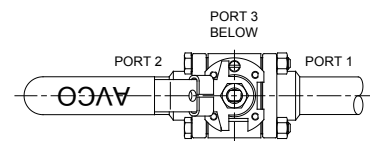

Fig. 5
5.3.1 For valve sizes up to 2" inclusive the lever has an integral stop to give full port 1 flow (port 2 has no flow), no flow at ports 1, 2 or 3, or full port 2 flow (port 1 has no flow), port 3 is always flowing when either port 1 or port 2 has flow. There is also a sliding lockable tab to prevent accidental or unauthorized operation of the valve. To operate, the lockable tab should be slid upwards and the lever rotated in the required direction. The tab can then be released to slide down and locate in its slot. The lever can only be correctly installed in one position. Rotating the lever clockwise from the mid-point increases flow to port 2 and counter-clockwise increases flow to port 1 (see fig. 5).